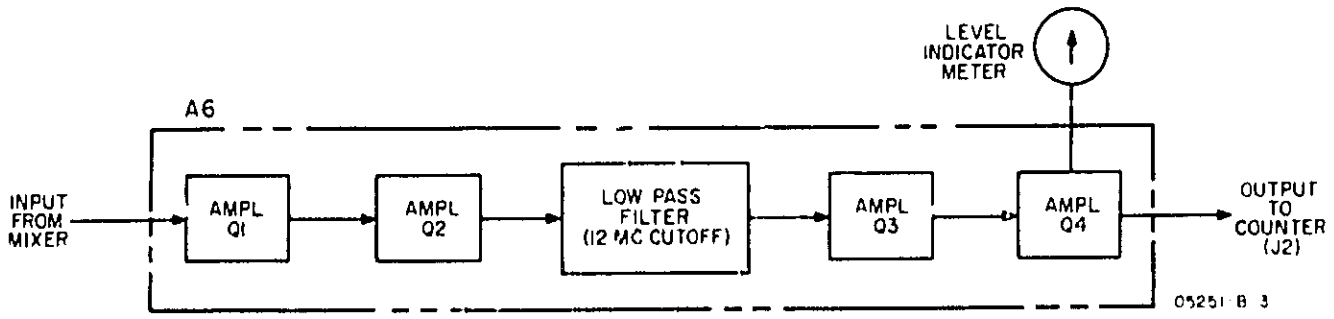

Figure IIA-2. Video Amplifier (A6)
IIA-15. The output of the mixer circuit is amplified by transistors A1Q1 and A1Q2 and is fed to the 12-Mc low-pass filter network (see Figure IIA-2). This filter passes any signal frequency below approximately 12 Mc and attenuates all higher frequency signals. The low-pass filter output is amplified by A1Q3 and fed to the last transistor amplifier, A1Q4, which provides both the output to the counter and the drive for the level indicator meter. The limiter diode, A1CR1, prevents the amplitude of the video amplifier output signal from exceeding approximately 300 mv RMS so that counter input circuits will not be overloaded. The low frequency limit of the video amplifier, determined by the bypass and inter-stage coupling networks, is approximately 100 kc. The converter output signal to the counter, when converter is properly tuned, will be between approximately 100 kc and 12 Mc and will have an amplitude that is less than approximately 300 mv RMS.
- c. Adjust controls as shown in Figure IIA-2.